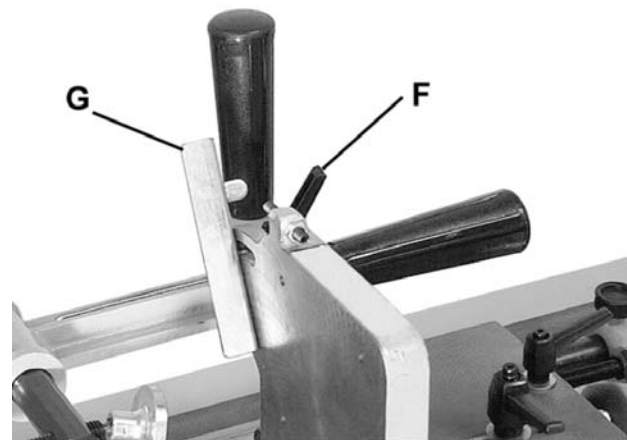

Figure 10
For angle tenons, loosen lock lever (F), shown in Figure 10, and adjust the backstop (G) to the desired angle. Re-tighten lock lever (F).